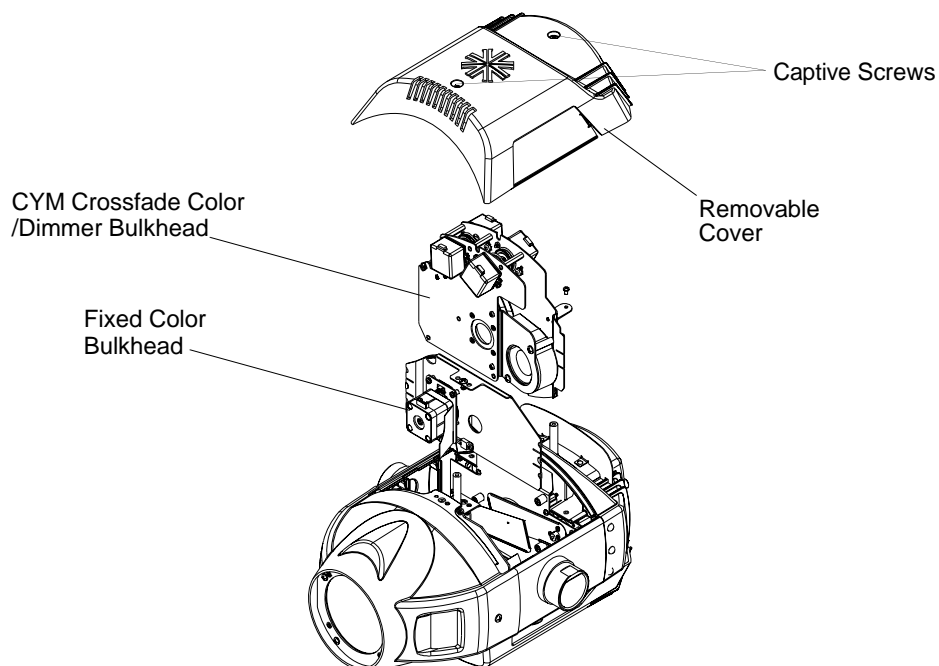

Figure 2-4: Fixed Color Bulkhead Replacement
- Step 2. At head cover, gradually loosen two 8-32 x 1/2" PPB captive screws and remove cover (it will remain attached by tether) as shown in Figure 2-4.
- Step 2. At head cover, gradually loosen two 8-32 x 1/2" PPB captive screws and remove cover (it will remain attached by tether) as shown in Figure 2-4 on page 19.
- a. At top head cover, gradually loosen two 8-32 x 1/2" PPB captive screws and remove cover (it will remain attached by tether) as shown in Figure 2-4 on page 19.